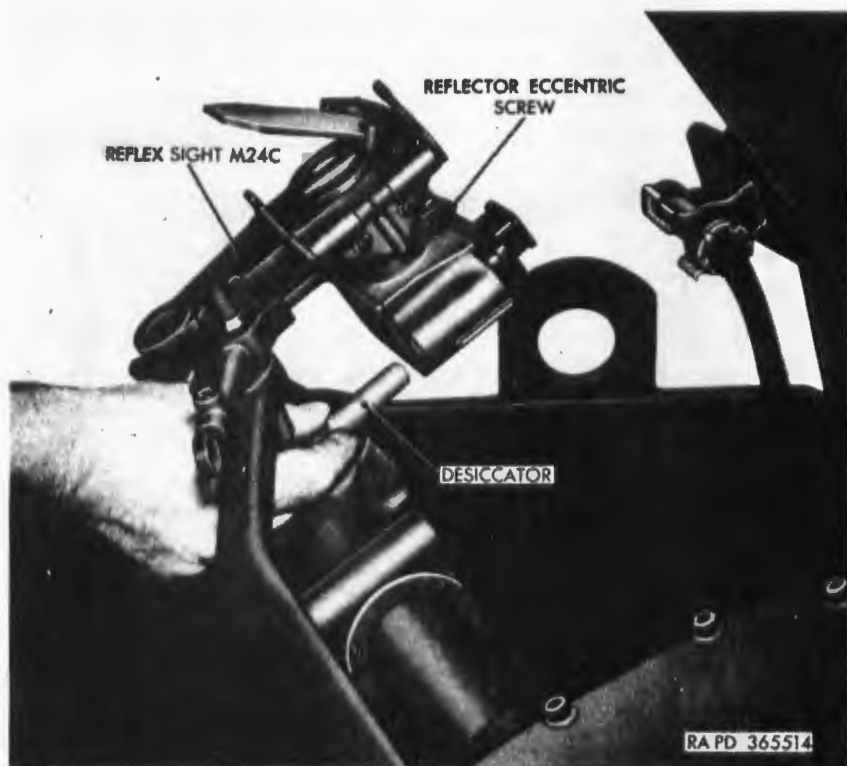

Figure 273. Replacing desiccator in reflex sight M24C.
b. *Replacement of Desiccator in Reflex Sight M24C (fig. 273).*
- (1) Remove fillister-head plug, brass washer, gasket, pad, and desiccator. Pink color of desiccator indicates a need for replacement.
- (2) Insert desiccator, pad, gasket, brass washer, and secure with $\frac{5}{8} \times \frac{1}{2}$ fillister-head plug.